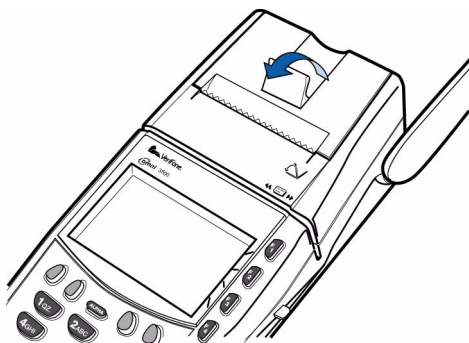

Figure 6 Open the Printer Cover
- 1 Lift paper roll cover tab to unlock the printer door (Figure 6).